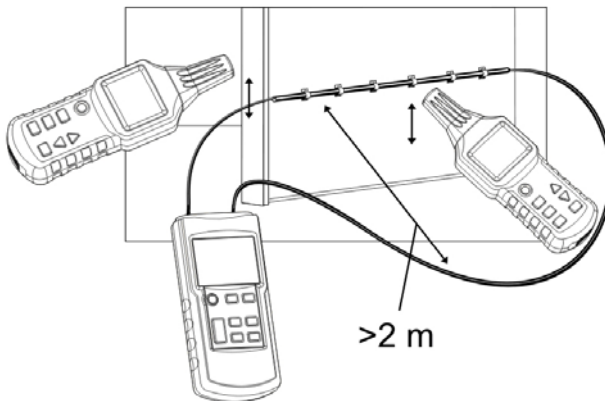

Fig.21
- Connect the transmitter as shown in Fig. 21;